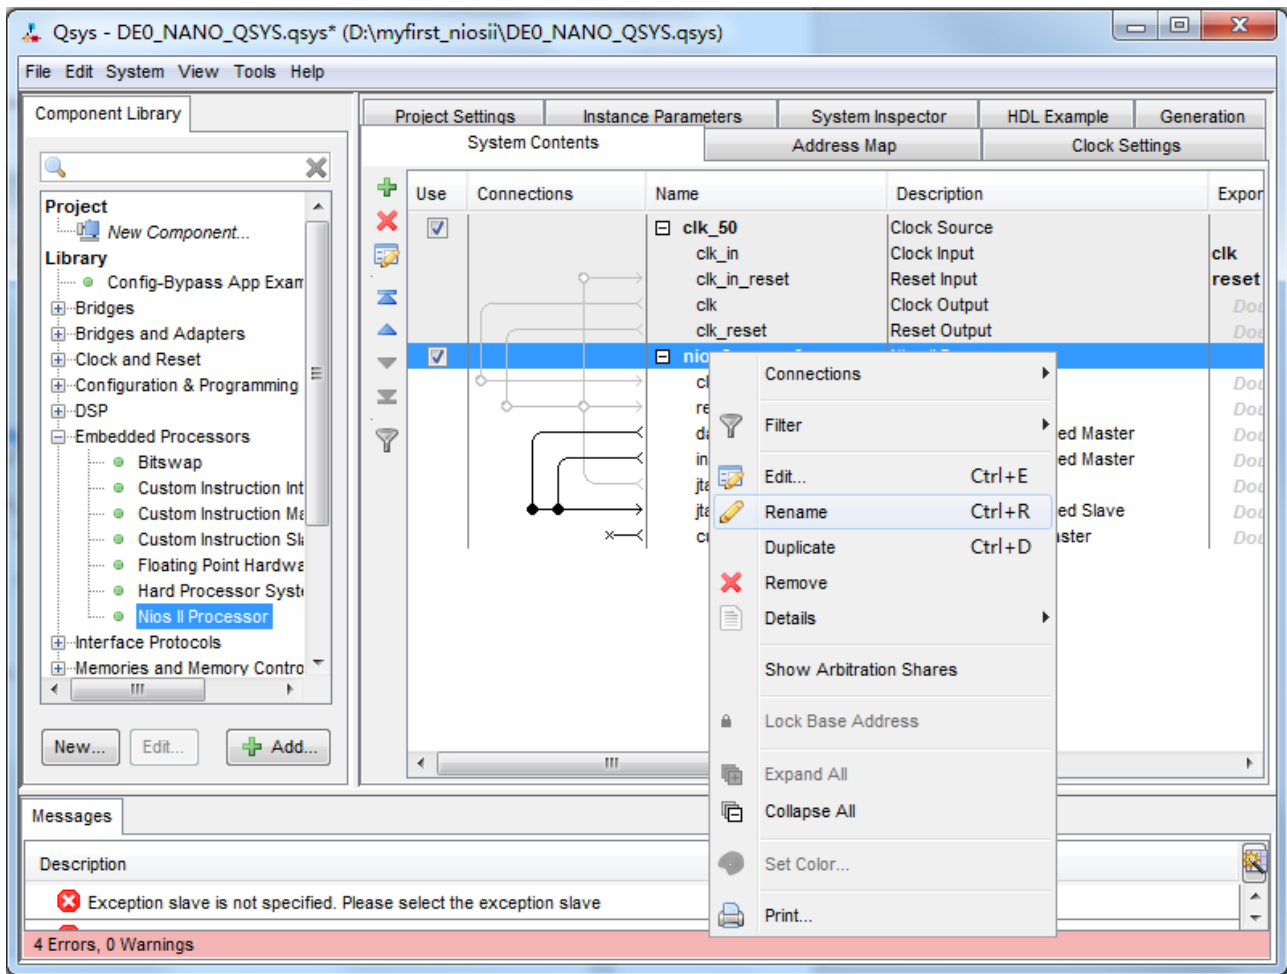
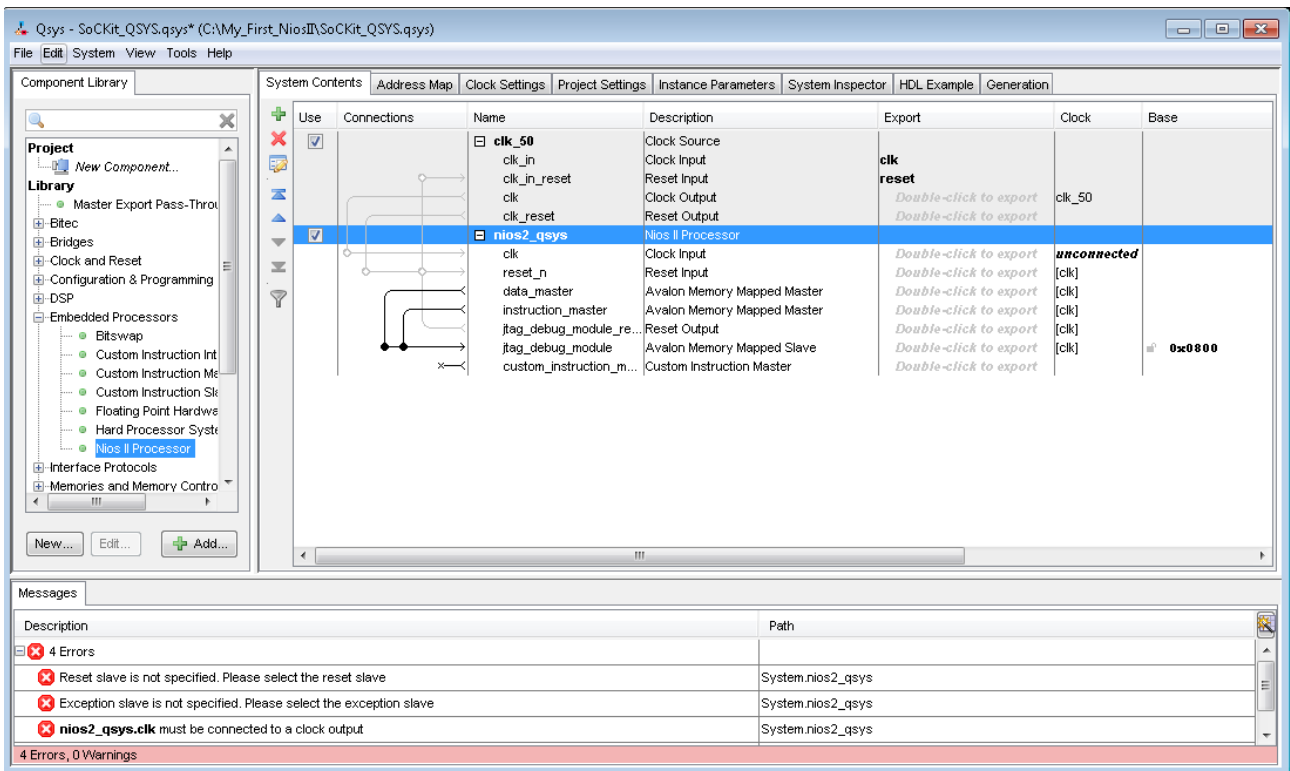

Figure 1-18 Rename CPU name (1)
Figure 1-19 Rename CPU Name (2)
11. Choose nios2\_qsys\_0 and right-click then choose rename, after this, you can update nios2\_qsys\_0 to cpu. See Figure 1-18 and Figure 1-19.